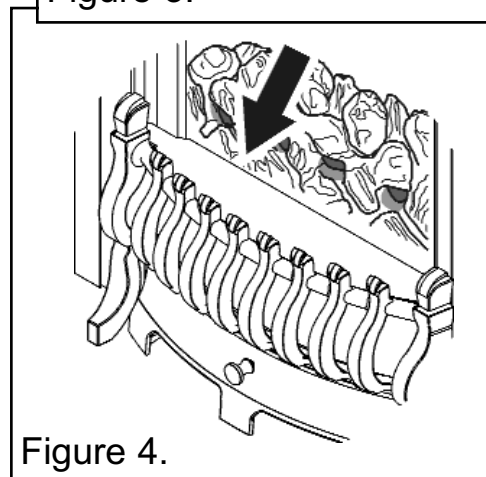

Figure 4.
- Depress the control knob and turn SLOWLY anticlockwise towards the PILOT / IGN position. A spark should be generated at the pilot while turning. The spark should ignite the pilot. The pilot flame can be seen through a small gap in the lower front of the fuel effect bed (See figure 4).